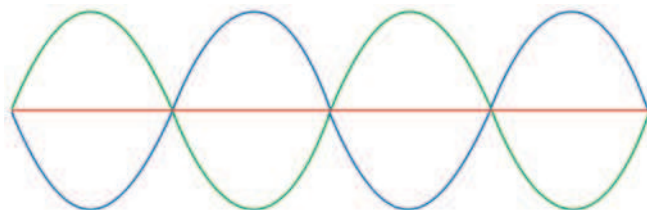

Figure 14-11 The sum of two waves of equal amplitude and frequency but 180 degrees out of phase with each other is 0.
3. The reflected light travels in the opposite direction through the first layer again where it encounters the interface between the first layer and the air. Again, a portion is reflected and a portion is passed along to the air. Due to the thickness of the first layer, which is about a quarter of a wavelength of a given color of light, the reflected light is now traveling alongside the first reflection except it is half a wavelength out of phase. You may think of this as two waves of equal amplitude traveling in the same direction, but with the second launched so that the peak of the second wave coincides with the trough of the first wave. The result is that the two cancel each other out (Figure 14-11). This is precisely what happens between the two reflections caused by the first layer of the dichroic filter.